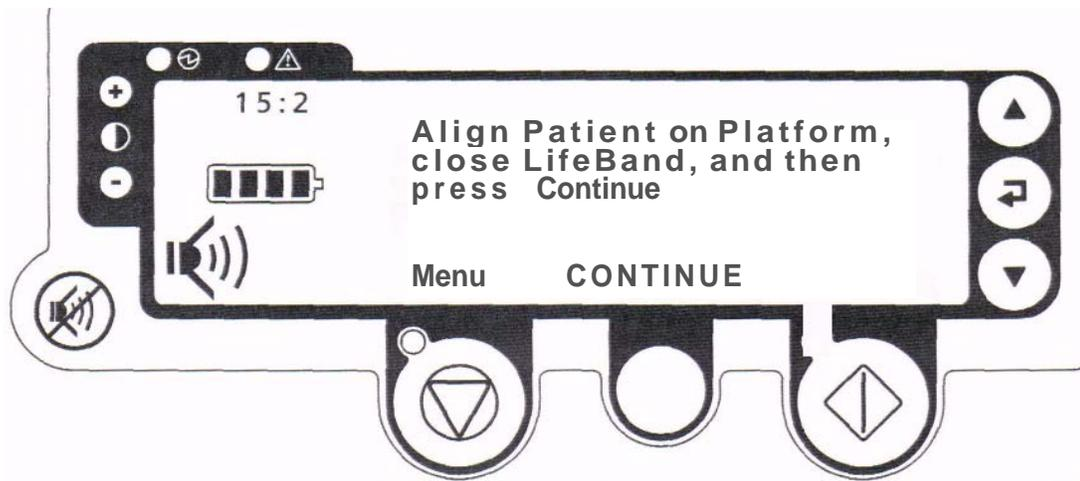

Figure 3-3 Patient-Readiness Display Panel Screen
2. The AutoPulse Platform indicates that it is ready for use (see Figure 3-3).